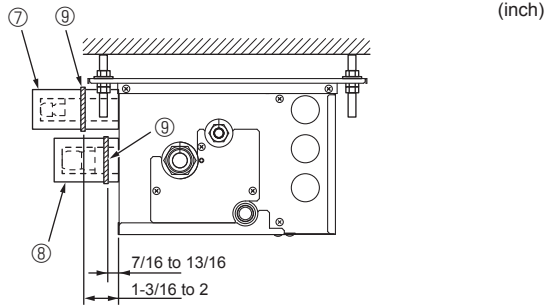

Fig. 7-4
- ⓕ Band ⑨
- ⓖ Pipe covers ③④⑤⑥
► Use the following procedures for indoor connection part which indoor unit is not connected. (Fig. 7-4)
- (1) In order to prevent refrigerant leaks, make sure that the flare nuts are tightened according to the specified torques* in Table 3.
- (2) In order to prevent condensation, install the pipe covers ⑦ ⑧ and fasten them with the supplied bands ⑨ .